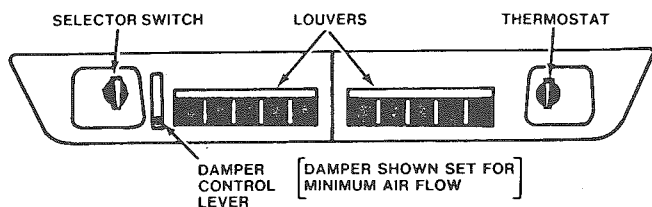

Figure 179 – Control Panel
1. **Selector Switch** (system switch) – The selector switch determines which mode of operation the air conditioner will be in; “OFF,” “LOW FAN,” or “HIGH FAN,” or “LOW COOL,” or “HIGH COOL,” or “LOW HEAT.” (See figure 179.)